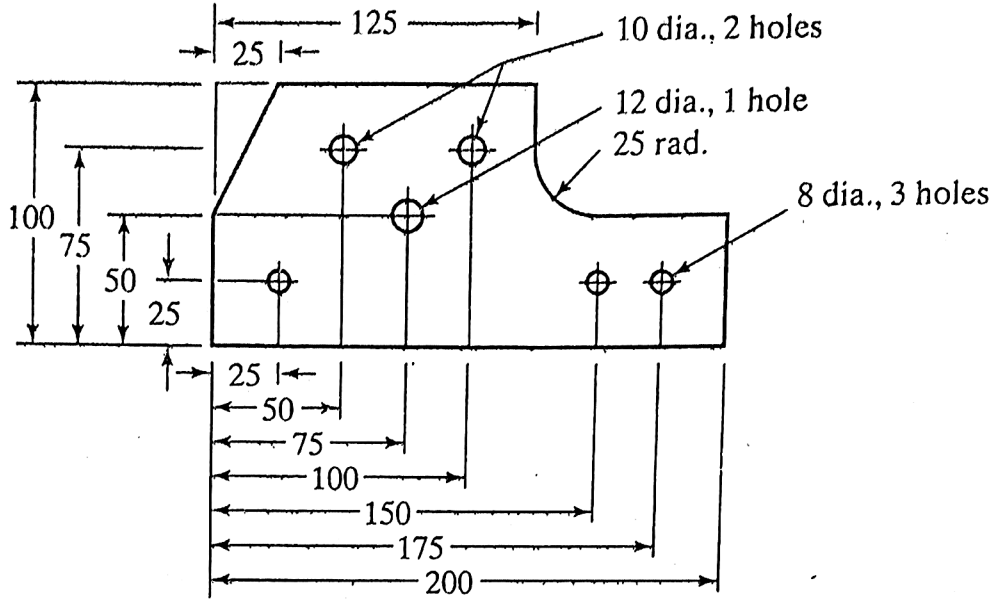

Fig.1
- b) Explain fused deposition modelling and laminated object manufacturing process. (12)
4. a) Discuss about diamond micromachining process. (10)
- b) Explain the etching processes. (10)
5. a) Why adaptive control is needed? (5)
- b) Explain different adaptive control systems. (15)
6. a) What are the basic components of NC system. (5)
- b) State the difference between absolute vs. incremental positioning system in NC. (5)
- c) State the advantages and disadvantages of CNC. (10)
7. a) Differentiate between ECM and EDM processes. During an electric discharge drilling of 10-mm square hole in a low carbon steel plate of 5 mm thickness, brass tool and kerosene are used. The resistance and capacitance in the relaxation circuit are 50 Ω and 10μF, respectively. The supply voltage is 200 volts and the gap is maintained at such a value that the discharge (sparking) takes place at 150 volts. Estimate the time required to complete the drilling operation. (10)
- b) Discuss working principle of ECM process with necessary equations. (10)
8. The part in below figure1 is to be drilled on a turret type drill press. The part is 15.0 mm thick. There are three drill sizes to be used: 8 mm, 10 mm, 12 mm. These drills are to be specified in the part program by tool turret positions T01, T02 and T03. All tooling is high